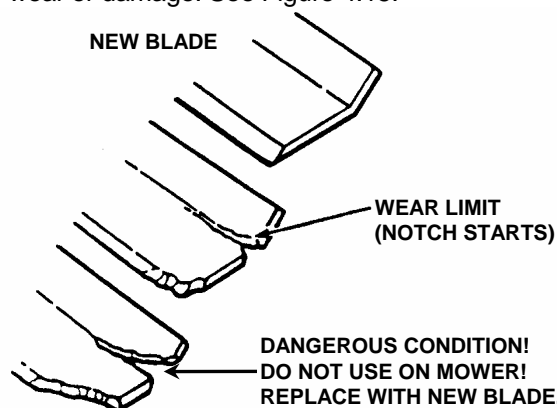

FIGURE 4.15
1. Inspect blade frequently for signs of excessive wear or damage. See Figure 4.15.